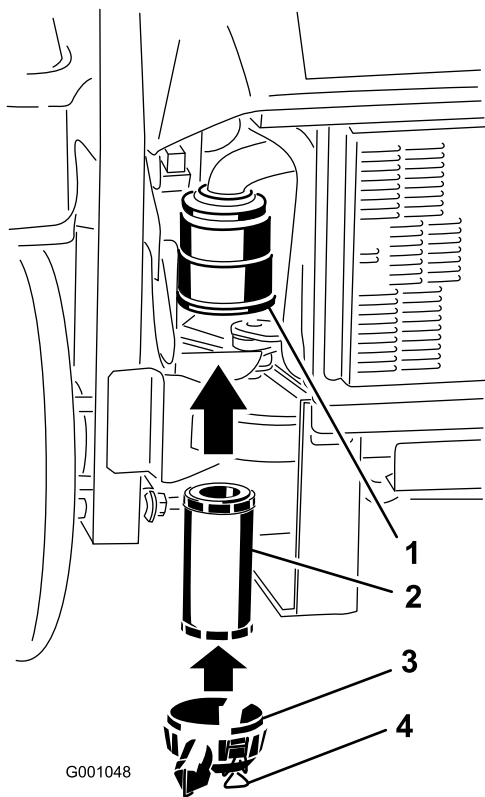

Figure 31
2. Carefully slide the filter into the filter body (Figure 31). Ensure that it is fully seated by pushing on the outer rim of the filter while installing it.
3. Install the air cleaner cover and secure the latches (Figure 31).